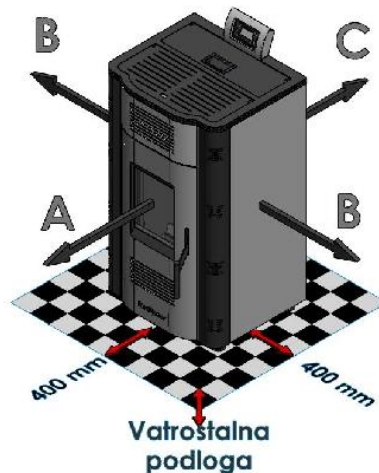

Figure 8. Display of Distance of Pellet Boiler heating Stove from fixed objects
- In case of setting the Boiler heating Stove on the combustible surfaces (floors, laminates, rugs, carpets, etc.). It is necessary to insulate the unit from such substrates with a plate of uncombustible materials (steel, ceramics, insulation materials, ceramic fiber, etc.). Such plates should be sized as to be larger from the base of the heating Boiler Stove (see **Figure 8**).
- **Distance of the pellet Boiler heating Stove from the solid immovable objects (walls, columns, etc.) (Figure 8) laterally must be at least 40 cm (Figure 8 measures B), at the back of 20 cm (Figure 8 measures C) and at the front of 100 cm (Figure 8 A measures). These distances are necessary because of approaching to hole for cleaning as well as for access during service interventions.**